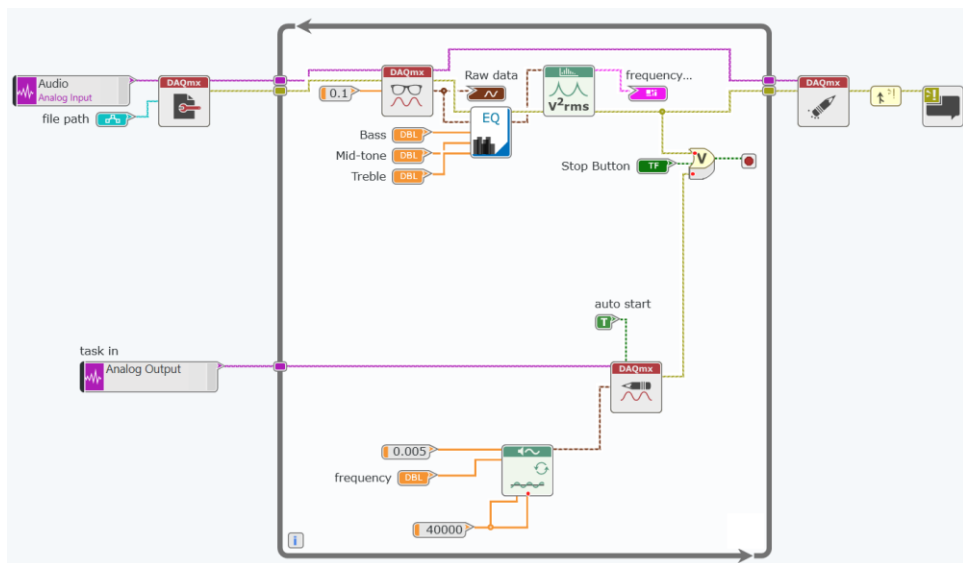

Figure 6-29 Expand the OR function to stop the while loop in the event of an error from either task or a user pressing the stop button.
- c. Your block diagram should appear as in Figure 6-29: